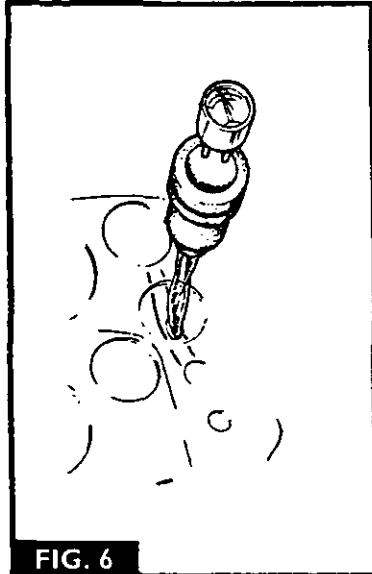

FIG. 6
2. Fig. 6. Push the ammeter up through the instrument panel.